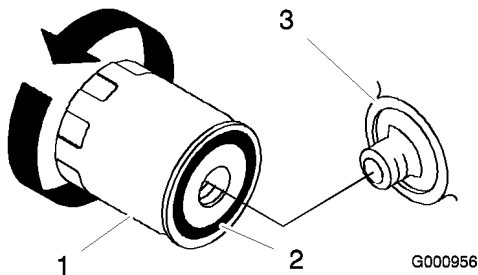

Figure 34
3. Apply a thin coat of new oil to the rubber gasket on the replacement filter (Figure 34).
4. Install the replacement oil filter to the filter adapter, turn the oil filter clockwise until the rubber gasket contacts the filter adapter, then tighten the filter an additional 3/4 turn (Figure 34).